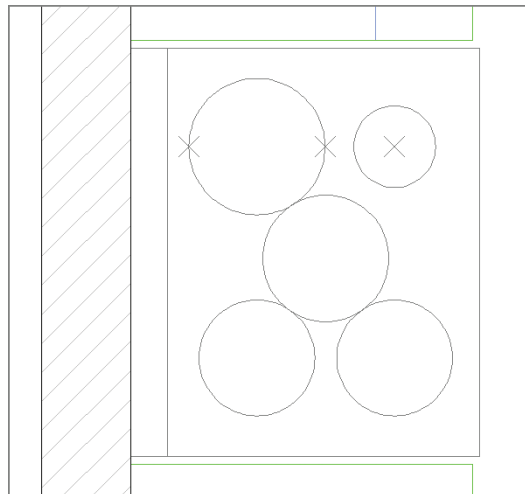

FIGURE 2.25 Drawing circles with various options
10. Type **TAN**, press Enter to invoke the Tangent object snap, and click the circle on the lower right. You can type the first three letters of any object snap as an alternative to using the context menu. AutoCAD draws a circle precisely tangent to the three others (see Figure 2.25).